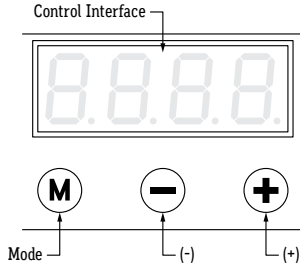

FIGURE 3 (DMX OUTPUT)
- Do not install mounting clips over LED diodes. **(Fig. 3)**